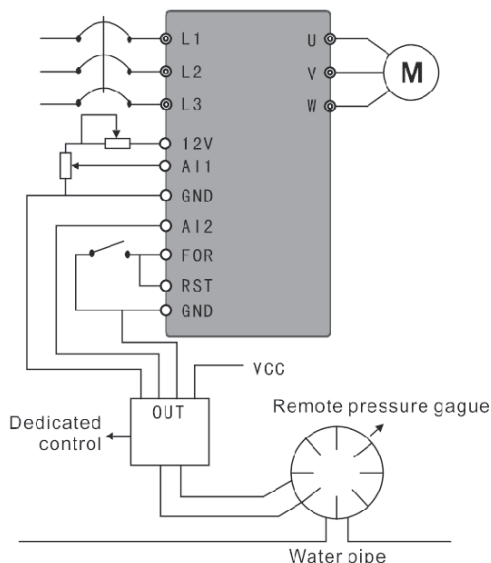

Figure F-6 Constant-pressure Water Supply - Remote Pressure Gauge
(2) Use remote pressure gauge of 0-10kg; as required, use external terminal to control the operation and stop and set target value via potentiometer. As shown in Figure F-6.